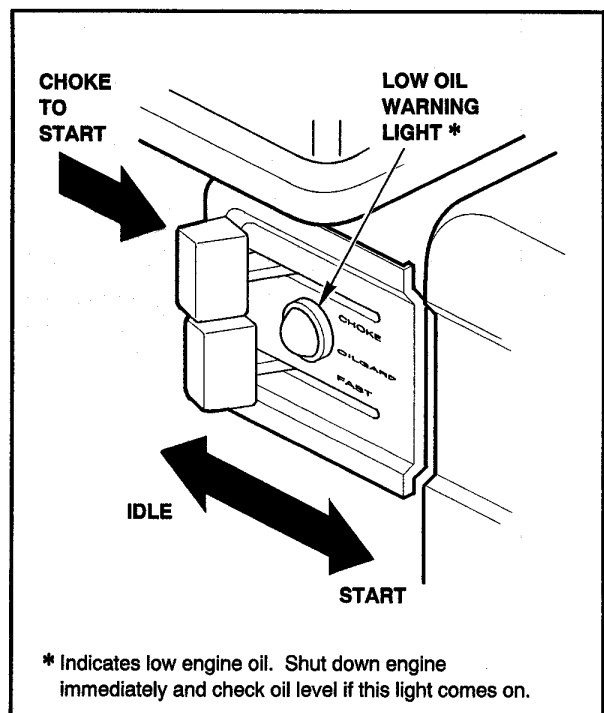

Figure 4. Briggs and Stratton Engine Controls
- c. Slide the RUN/CHOKE control (figure 4) to the CHOKE position if the engine is cold. Set the control to the center position to restart a warm engine.